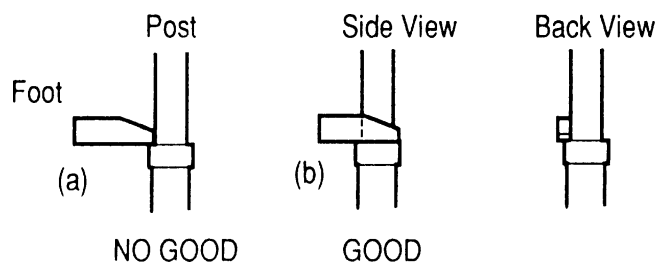

Fig. 7 - P2/P3 Post Height Adjustment
4. Loosen the black lock screw and lower each post below the top edge of the post adjustment plate and then raise each post until it contacts the foot of the reel table height fixture. For proper adjustment, the reel table height fixture foot should be positioned as shown in Fig. 7.